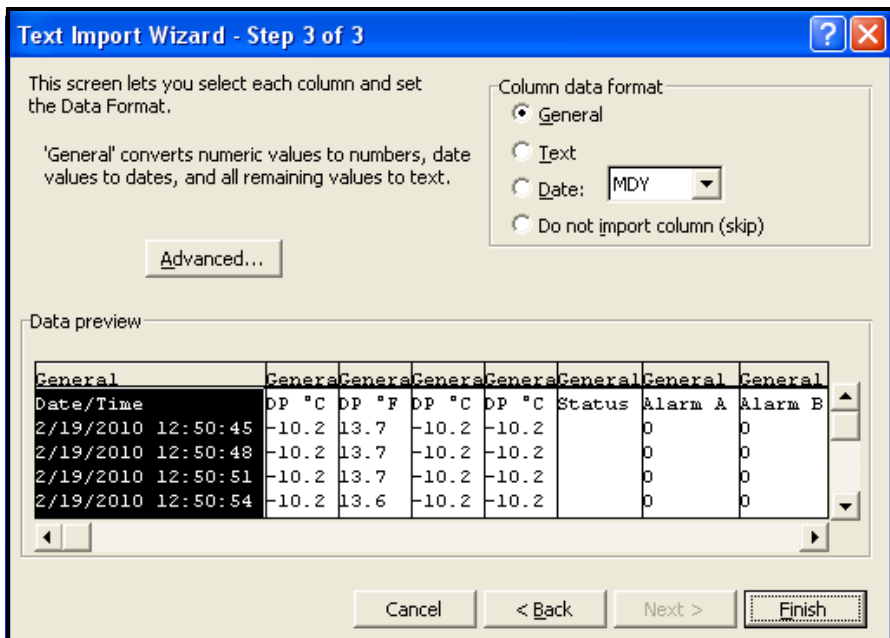

Figure 64: Excel Import Wizard 3
7. Set the desired data delimiters, and click on Next >. The following screen appears (see Figure 64 on page 105).
8. Select each column and set the data format for it (see Figure 64).